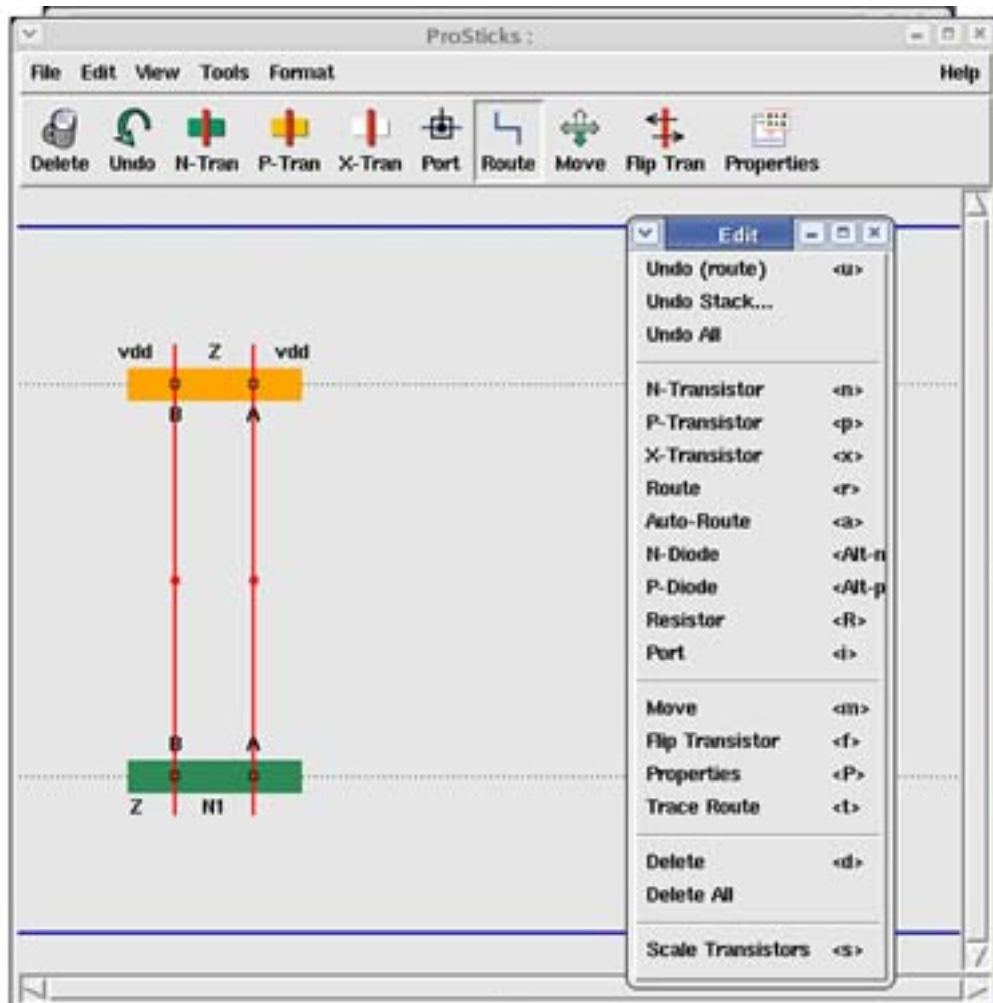

Figure 49: Route the B gates of the n- and p-transistors
To start the routing, we click on **Route** from the toolbar or **Edit** menu. Then we click on the gate, B, of one of the transistors (it doesn't matter which one) and drag to the corresponding gate (B) of the other transistor. Figure 49 shows the resulting layout.